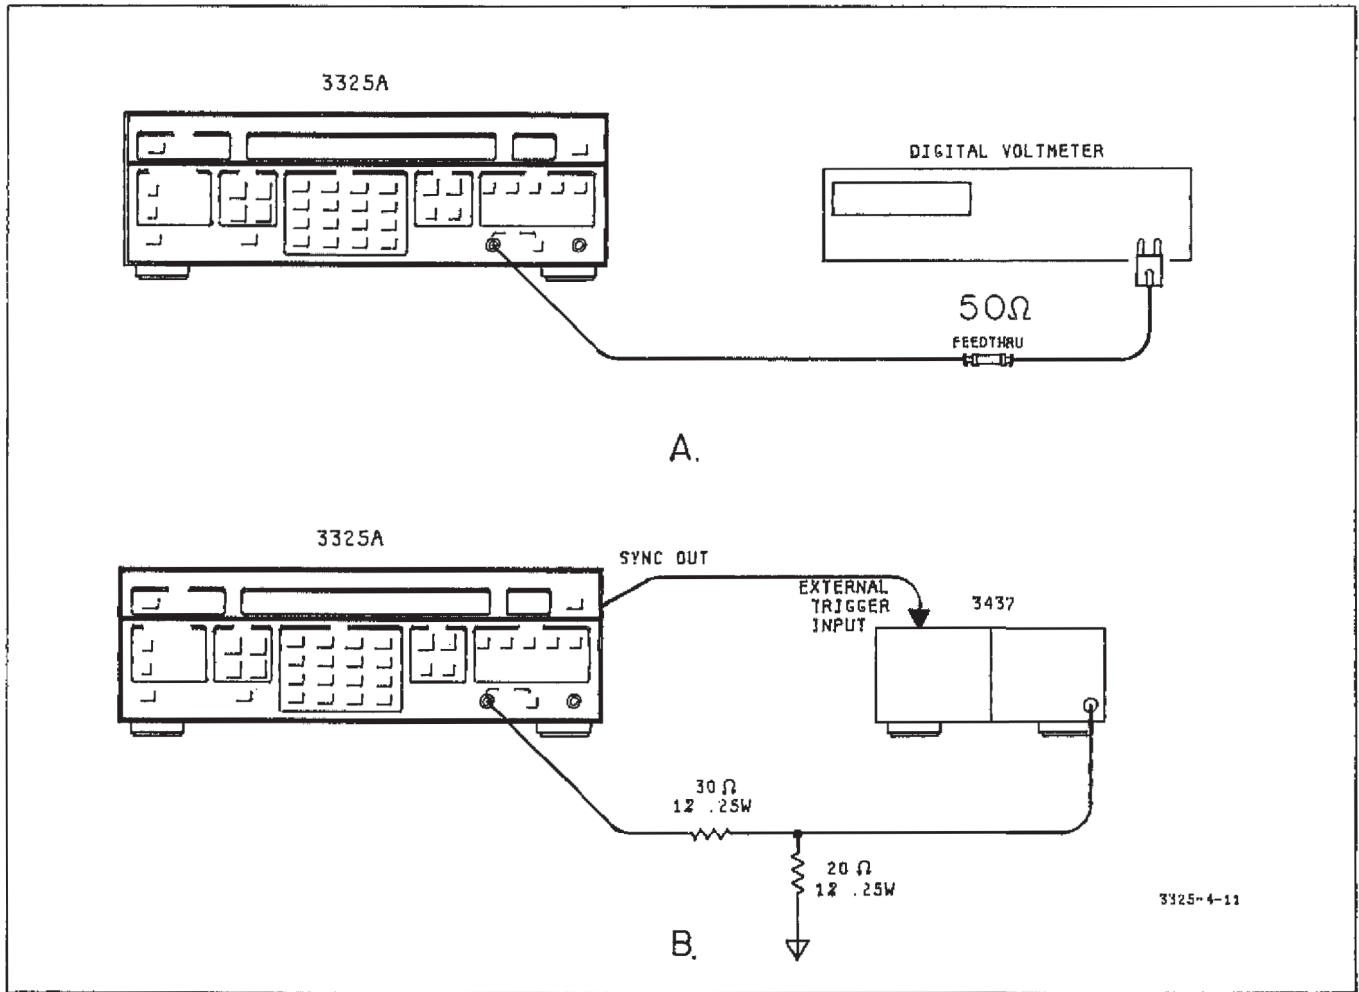

Figure 4-10. Triangle and Ramp Linearity Test.
a. Connect the equipment as shown in Figure 4-10 A . Set the digital voltmeter to measure dc voltage.